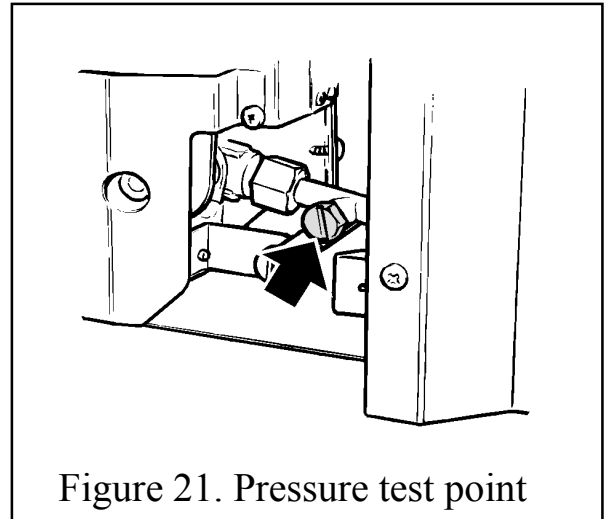

Figure 21. Pressure test point
1. Check the burner pressure by fitting a pressure gauge at the test point. The test point is on the pipe situated below the bottom right corner of the burner unit. See figure 21. Check the pressure with the appliance alight and set at maximum output.